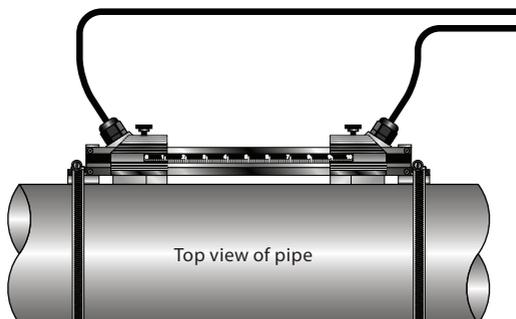

Fig. 23 Mounting track installation
- 5) Place the first transducer inbetween the mounting rails near the zero point on the scale. Slide the clamp over the transducer. Adjust the clamp/transducer such that the notch in the clamp aligns with zero on the scale. See *Fig. 23*.